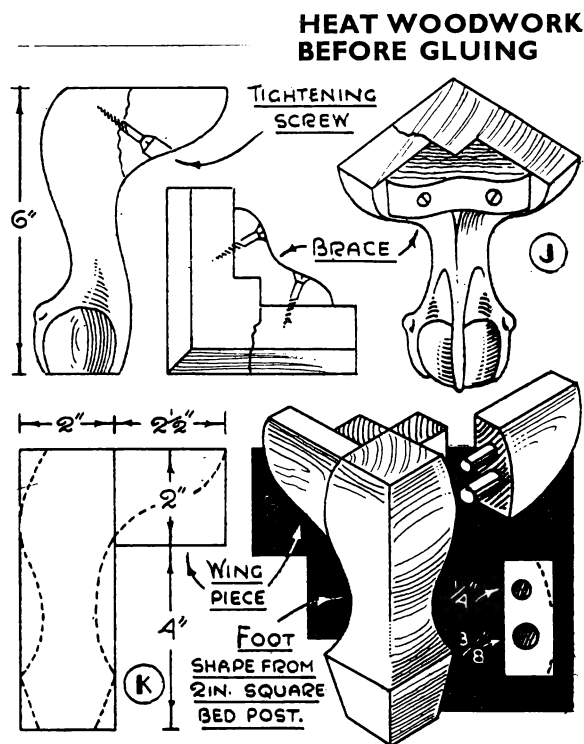

FIG. 4. TREATMENT OF CABRIOLE LEGS.
**Ball-and-Claw Feet.**—It is usually the "wings" on ball-and-claw, cabriole feet, etc., that suffer when the feet are given a hard knock. That is the chief reason why such feet should not be fixed beneath a carcass by the wings, for these are purely ornamental in many cases. They are not intended for fixing purposes. The best way to fix broken wings is detailed at J, Fig. 4. Simply cut out a shaped brace from  $\frac{3}{4}$  in. wood and glue and screw behind the foot. This is in addition to screwing through the wing into the foot.
It may happen that both front ball-and-claw feet are badly broken—so badly in fact that new feet are necessary. If you cannot purchase new feet, or make copies with the aid of carving tools, and if the piece of furniture happens to be an "odd" item, you can get out of the difficulty by making the style of foot shown at K, Fig. 4.